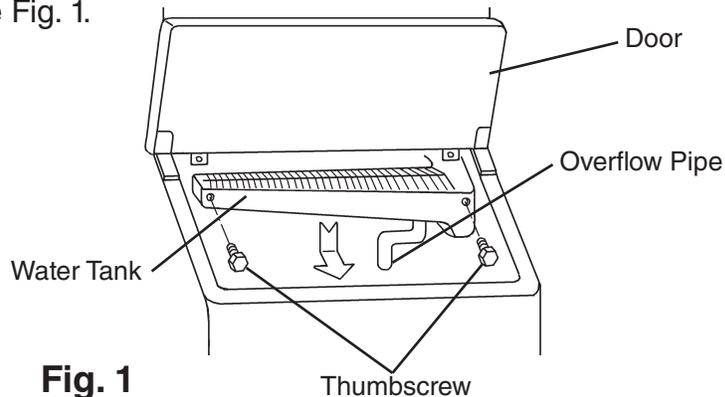

Fig. 1
- 4) Disconnect the overflow pipe, then remove the 2 water tank thumbscrews. Remove the water tank. See Fig. 1.